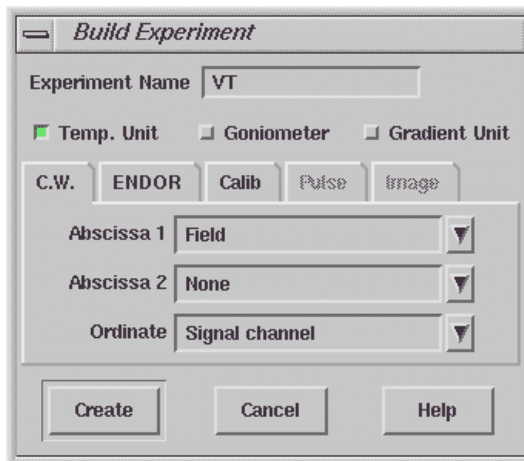

Figure 12-9 Defining an experiment using a temperature controller.
6. **Define an experiment that uses the ITC 503.** Create a new experiment with the Temp. Unit button activated (green). Click **Create** to close the dialog box. (See Figure 12-9.)